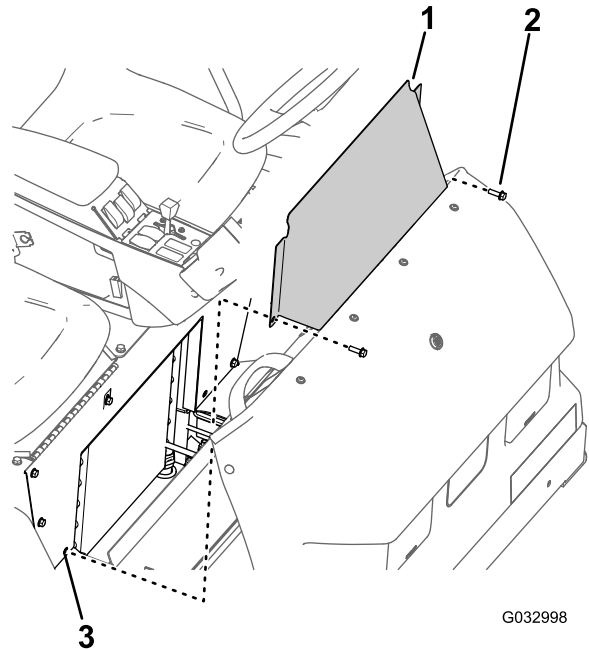

Figure 65
1. Remove the 2 flanged-head bolts that secure the seat-base-access panel to the seat base (Figure 65).
2. Remove the seat-base-access panel from the machine (Figure 65).
1. Align the holes in the seat-base-access panel with the holes in the seat base (Figure 65).
2. Assemble the seat-base-access panel to the seat base with the 2 flanged-head bolts (Figure 65) that you removed in step 1 of Removing the Seat-Base-Access Panel (page 53).